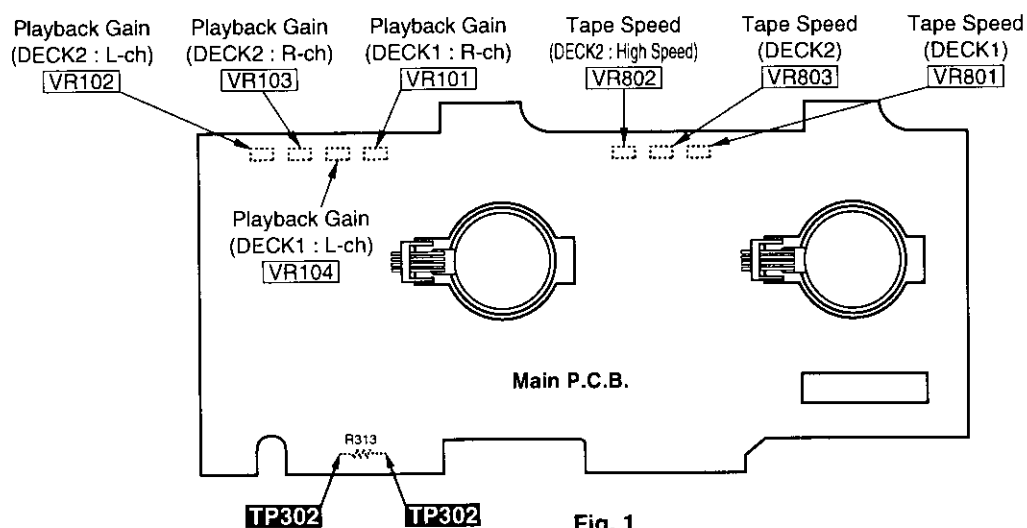

Fig. 1
2. Adjust Deck 1 = **VR801** and Deck 2 = **VR803** for the output value shown below. (Refer to Fig. 1)
6. Adjust **VR802** so that the output frequency of DECK 2 is within ± 30 Hz for the value of the output frequency of DECK 1. (Refer to Fig. 1)
3. Adjust Deck 2 : **VR102** (L-ch) [**VR103** (R-ch)] and Deck 1 : **VR104** (L-ch) [**VR101** (R-ch)] so that the output is within the standard value. (Refer to Fig. 1)